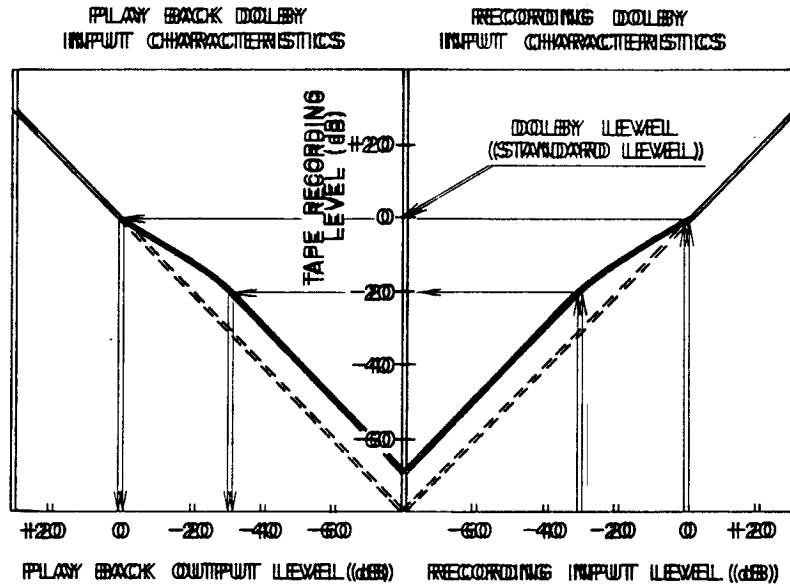

Fig. 31
- 5) As shown in Fig. 31, with the Playback Dolby NR Circuit signals recorded above the Dolby level are played back at a 1:1 ratio, and signals recorded at a level of under -20 dB on the tape (Dolbyized recorded signals) are reduced by 10 dB and played back.